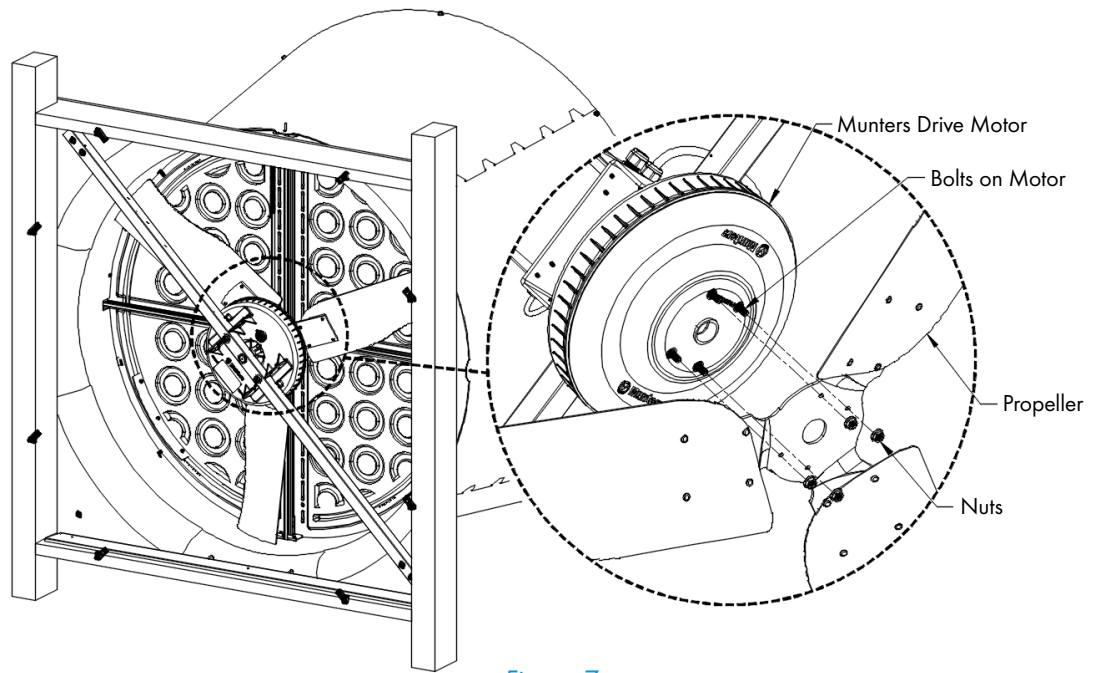

Figure 7
Remove (4) Nuts from face of the Munters Drive Motor. Position Propeller onto bolts on Munters Drive Motor and secure with (4) Nuts just removed. Tighten the Nuts to 200 in-lbs. of torque. See Figure 7.